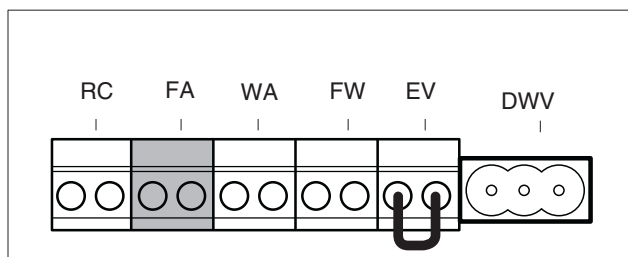

fig. 46 Terminal strip - Outdoor-temperature sensor (connection colour blue)
- Connect the outdoor temperature sensor to the blue FA terminal (fig. 46), using a 2-core cable of 0.75 mm².